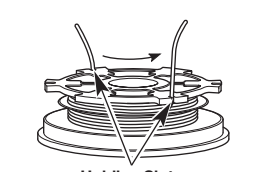

Fig. 18
4. Insert the two 6-inch sections into the two .095 holding slots (Fig. 18).